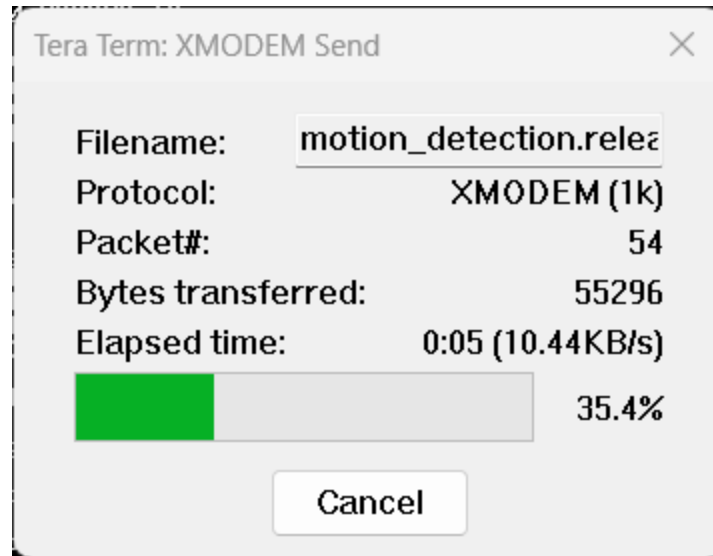

Figure 5. XModem Transfer Progress Dialog
5. Observe the transfer progress dialog as shown in Figure 5.